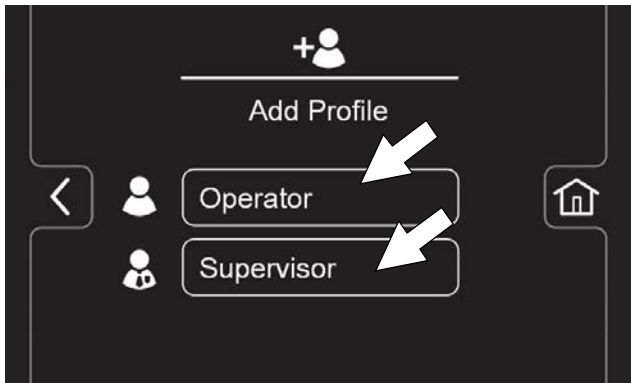

FIG. 164
3. Press the Operator button to add an Operator mode profile or press the Supervisor button to add an additional supervisor mode profile (Figure 164).